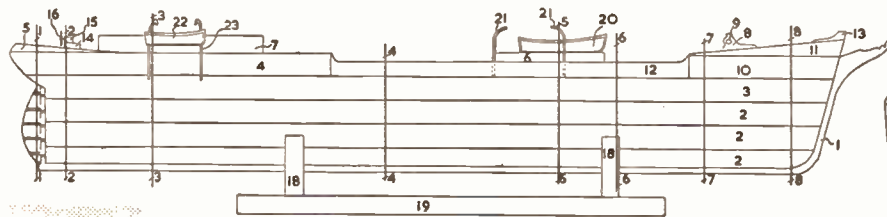
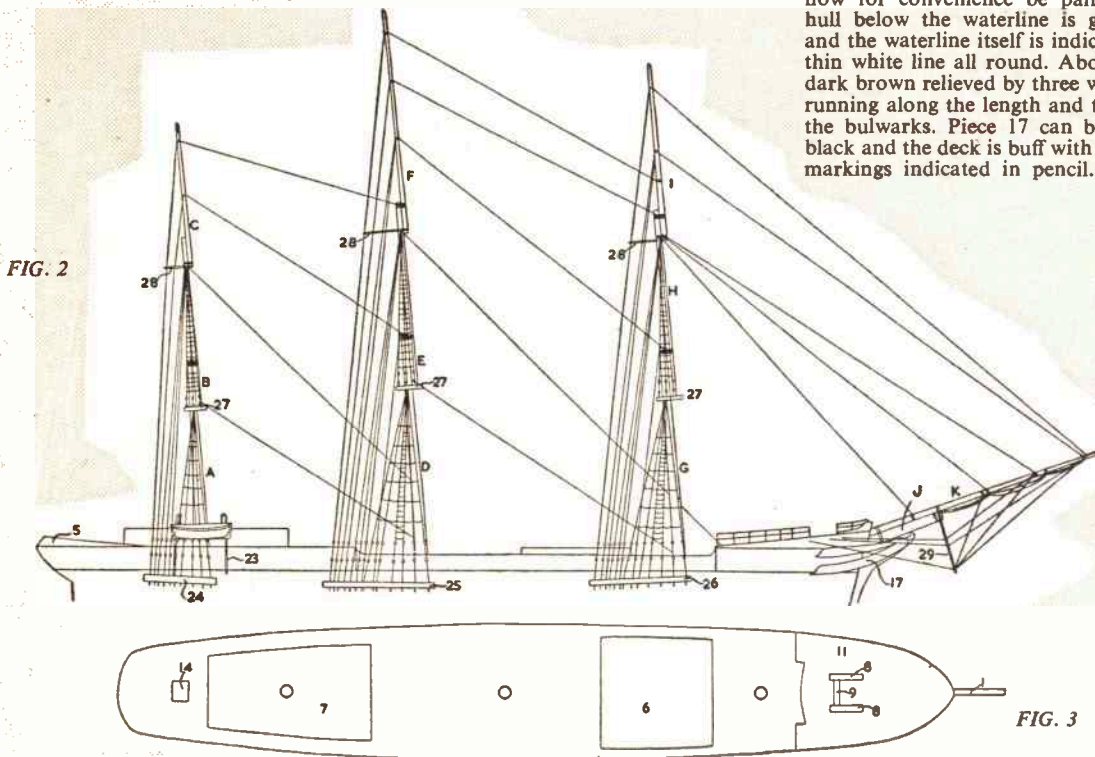

FIG. 1
FIG. 2
It will be seen that the keel as shown on the design sheet consists of two pieces which are joined together at (X). This applies to models being made from Hobbies Kits, but workers who are using their own wood and materials can, of course, make the keel in one piece. The hull consists of the keel (1) and six pieces 2 which are glued 3 on each side of the keel. The deck (3) is then glued on top and pieces 4, 5, 10 and 11 are added as indicated in Fig. 1. Allow the glue to dry thoroughly and then shape this portion now completed to the section shown on the design sheet. These lines coincide with the vertical lines similarly numbered on Fig. 1, and show the
The next step is to add pieces 6 and 7 which are glued in place as shown in Figs. 1 and 3. Continue by making up
The wheel assembly consists of pieces 14, 15 and 16 and is next made up and glued to piece 5 (Fig. 1). The decorative pieces 17 are also furnished from thin card and added at the bow, being glued at the figurehead and hull as seen in Fig. 2, and in the illustration of the finished model.
When the paint is completely dry, continue assembly with the masts and rigging. The masts are made up as shown in Fig. 5, being glued and lashed with cord. The channels (24, 25 and 26) are next glued in their positions as shown in Fig. 2. Now step the masts in the appropriate holes provided in the deck and carry on with the standing rigging as seen in Fig. 2. For this use medium cord as supplied in Hobbies Kits. The bowsprit (J) is let into a hole drilled in the bow and (K) is lashed on the top side of (J). Rigging should be tied to the masts and bowsprit and attached to the deck by small staples made from beheaded fretpins. A touch of glue will give added strength to the knots.